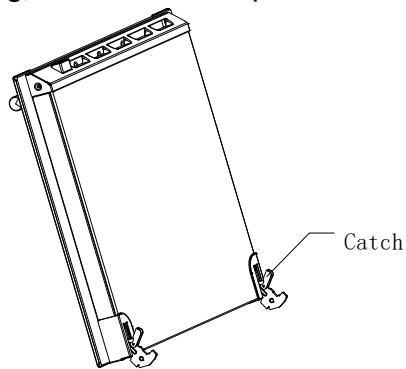

Figure 1
**A. Removing the oven door:** (See figure 1).